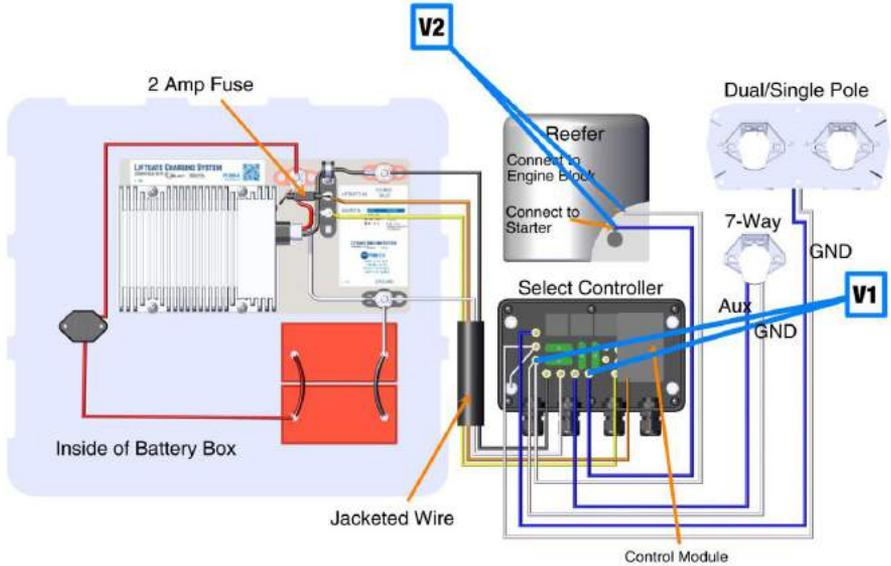

Figure 13
Step 1: With the reefer running and the stinger and 7-way cord unplugged, use a voltmeter to measure the voltage between the reefer ground stud and the reefer positive stud inside the Select Controller (see V1 in Figure 13). It should read 13.8 volts or greater. If yes, and the light still is not solid green, call customer service as the Select Controller or Control Module may be defective. If no, proceed to step 2.
Step 2: With the reefer running and the stinger and 7-way cord unplugged, use a voltmeter to measure the voltage between the reefer engine block ground stud and the reefer starter positive stud (see V2 in Figure 13). It should read 13.8 volts or greater. If yes, repair or replace the wiring between the reefer unit and the Select Controller. If no, check the reefer alternator and the wiring between the reefer alternator and the reefer starter. Repair or replace.